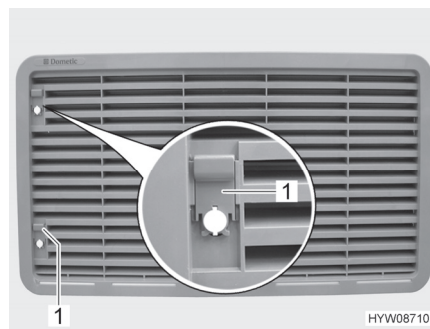

Fig. 183 Refrigerator ventilation grill
- Push sliding trap (Fig. 183,1) upward.